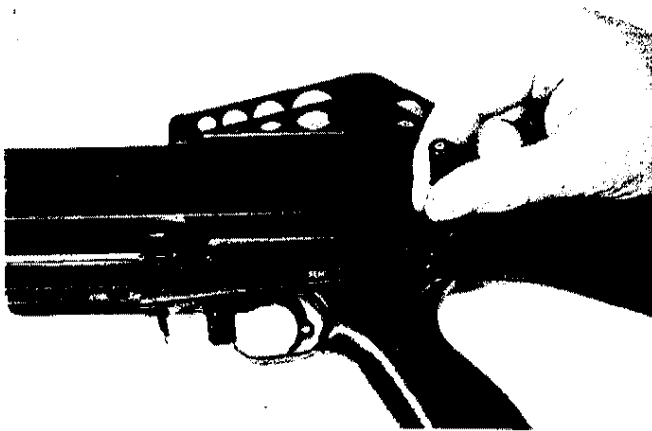
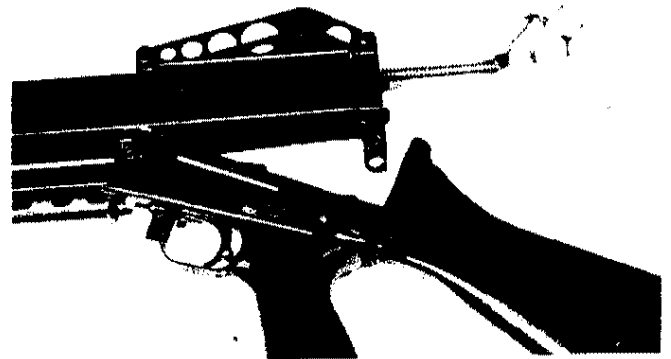

FIGURE 15. PUSHING OUT THE TAKE-DOWN PIN
FIGURE 16. REMOVING THE DRIVING SPRING ASSEMBLY
(1) With the bolt closed and safety on safe, push the take-down pin out toward the right side of the weapon with the point of a cartridge. (Figure 15)
(2) Holding the rifle with the left hand under the receiver, muzzle pointing down, pull out the take-down pin with the right hand until the trigger housing group is allowed to pivot downward. The take-down pin cannot be removed from the trigger housing assembly.
(3) Still holding the weapon in the left hand, grasp the driving spring assembly and remove. (Figure 16).